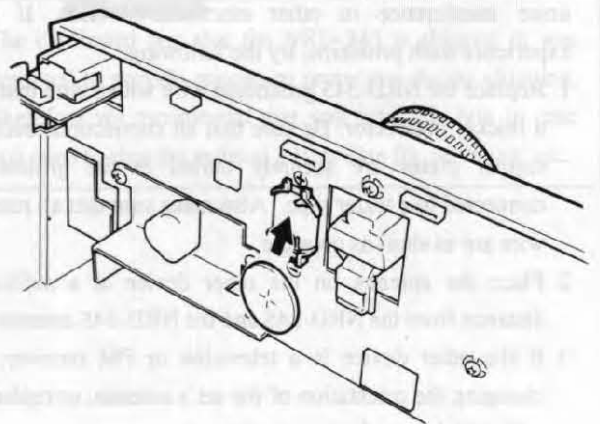

Figure 5.1
- ① Remove the AC adapter plug from the NRD-345.
- ② Remove the top and bottom covers as shown in item 7.2
- ③ Remove the front panel.
- ④ Remove the shield plate on the CPU circuit board.
- ⑤ See Figure 5.1 to replace the lithium cell, which is attached to the CPU circuit board.
- ⑥ Attach the shield plate to the CPU circuit board.
- ⑦ Attach the front panel to the NRD-345.
- ⑧ Attach the top and bottom covers. This completes the procedure.